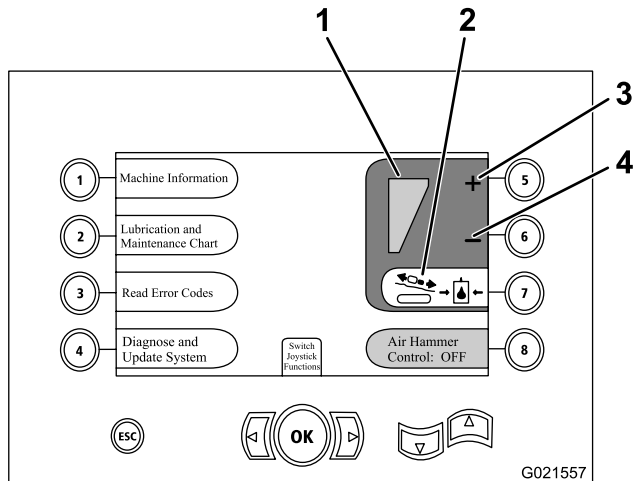

Figure 70
1. Press button 7 on the screen to turn the carriage pressure to the On position (green), as shown in Figure 70.